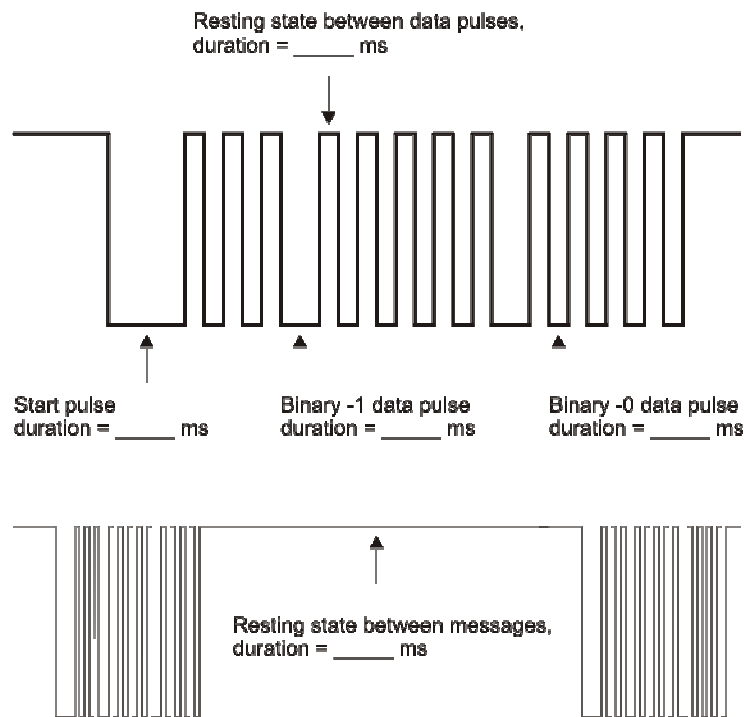

**Figure 1-10**
Figure 1-10 shows a timing diagram for an IR message from the remote. This diagram shows the timing while the 5 key on its digital keypad is pressed and held. Your task will be to fill in the blanks for each measurement using the numbers you have recorded in this activity. Remember that there are 1000  $\mu\text{s}$  in every 1 ms. Your measurements have been in microseconds, so you will have to divide each by 1000 to enter the millisecond measurements in the timing diagram.
- ✓ Use the measurements you have taken in this activity to fill in the millisecond measurements in Figure 1-10.